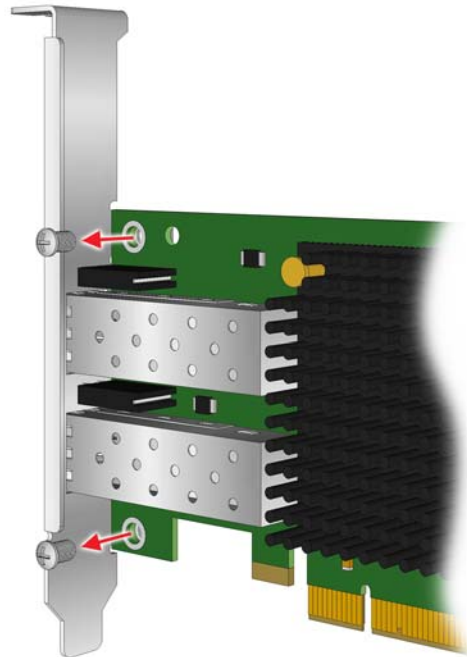

Figure 2-4 Removing the Bracket
6. Remove the mounting bracket screws from the top of the HBA. Figure 2-4 shows the screws that are removed from the bracket.